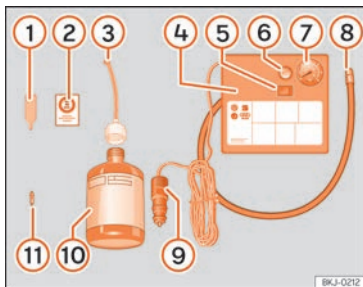

Fig. 32 Standard representation: anti-puncture kit contents.
The anti-puncture kit is located underneath the floor covering in the luggage compartment. It includes the following components » **Fig. 32**:
- Unscrew the tyre valve cap and insert. Use the » **Fig. 32** ① tool to remove the insert. Place it on a clean surface.
- Shake the tyre sealant bottle vigorously » **Fig. 32** ⑩.
- Screw the inflator tube » **Fig. 32** ③ into the sealant bottle. The bottle's seal will break automatically.
- Remove the lid from the filling tube » **Fig. 32** ③ and screw the open end of the tube into the tyre valve.
- Place the insert back into the tyre valve using the tool » **Fig. 32** ①.
- Screw the compressor tyre inflator tube » **Fig. 32** ⑧ into the tyre valve.
- Check that the air bleed screw is closed » **Fig. 32** ⑥.
- Insert the connector » **Fig. 32** ⑨ into the vehicle's 12-volt socket » **page 145**.
- Turn the air compressor on with the ON/OFF switch » **Fig. 32** ⑤.
- Attach the sticker »» Fig. 32 ② to the instrument cluster, within the driver's visual field.
Screw the inflator tube »» Fig. 32 ⑤ again and check the pressure on the gauge ⑥.